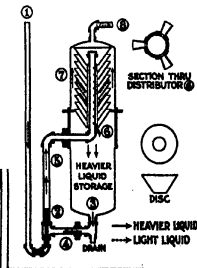

Figure 1
water and suspended dirt followed by treatment with sulfuric acid and alkali to remove color. A new type of self-contained apparatus had been developed for carrying on reactions between a continuous stream of one liquid and a second liquid or a solid. (Patents on this apparatus are pending.) The essentials of this equipment as constructed for bringing about the reaction between a 20-liter charge of concentrated sulfuric acid and a 600-liter per hour stream of used cleaners' solvent are shown in the schematic cross section, Figure 1. A duplicate of this apparatus, except that high-chromium steel disks are provided to prevent rusting, is used for the second step in the process—neutralization with an alkaline solution containing free ammonia. The tanks required for the 600-liter per hour units now available are 35 centimeters in diameter by 125 centimeters high. The acid-treater and neutralizer together occupy a floor space 1.5 by one meter and require 2.5 meters of head room. In this equipment provision is made for drawing fresh charges of chemicals into respective tanks by establishing a partial vacuum in them by means of a small vacuum pump.
The principle of operation of this equipment is as follows: The solvent stream enters at (1) Figure 1, through the mixing nozzle (2). The chemical reagent flows from the storage space (3) through the pipe (4) and mixes with the solvent stream in the pipe (5). The mixture of the two liquids rises into the distributor (6) in much the same manner as the mixture of air and water rises to the surface in the air-lift pumping of deep wells. The distributor (6) sends the mixture into the disk-stack (7), which provides about 2.5 square meters of settling area in which the heavier component is required to fall a maximum of 7 millimeters before it strikes a disk surface, on which it collects and down which it flows to drop finally back into the storage space (3). The solvent stream, now carrying not more than 0.05 percent by volume of acid tar (or about 0.15 percent of neutralizing solution) flows upwards past the periphery of the disks and finally out through (8).